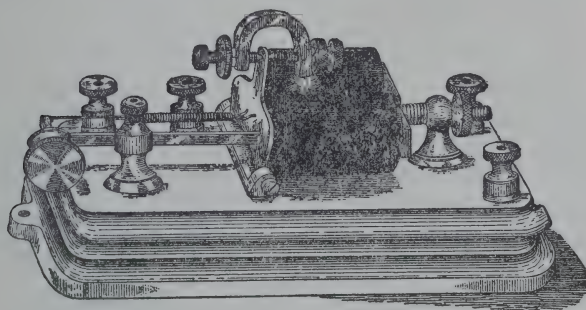

Fig. 32
11. *The Relay* (Fig. 32).—Telegraphing from 3,000 to 10,000 miles under the ocean is full of difficulties not now to be explained.